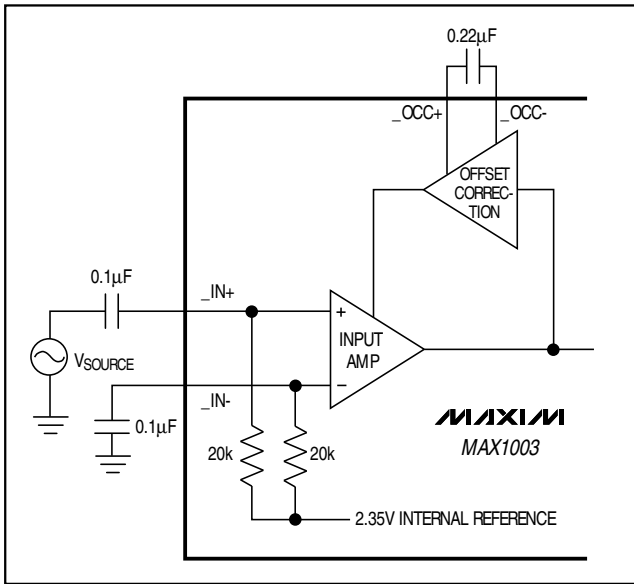

Figure 2. Single-Ended AC-Coupled Input
**Note 5:** Offset-correction compensation enabled, 0.22μF at Q and I compensation inputs (Figures 2 and 3).
Single-ended and differential AC-coupled input circuits are shown in Figures 2 and 3. Each of the amplifier inputs is internally biased to a 2.35V reference through a 20kΩ resistor, eliminating external DC bias circuits. A series 0.1μF capacitor is required at each amplifier input for AC-coupled signals.
compensation capacitor is required to set the dominant pole of the offset-correction amplifier's frequency response (Figures 2 and 3). The compensation capacitor will determine the low-frequency corner of the analog input response according to the following formula: